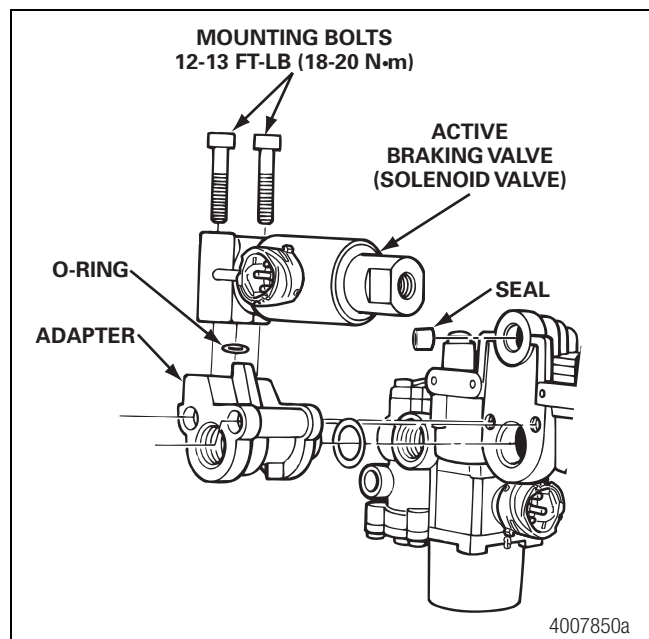

Figure 4.10
2. Use the two new M8 Allen-head bolts to attach the solenoid valve to the adapter piece. Use a 6 mm Allen-head tool to tighten to 13-15 lb-ft (18-20 N•m). Figure 4.10. ⚠